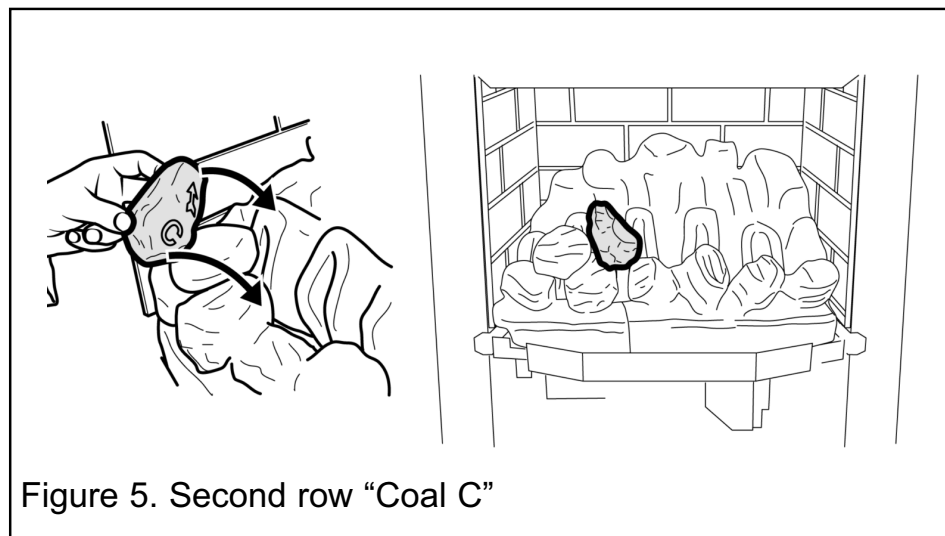

Figure 5. Second row "Coal C"
7. Hold coal 'C' upright with the arrow pointing to the top. Locate coal 'C' as shown in figure 5.